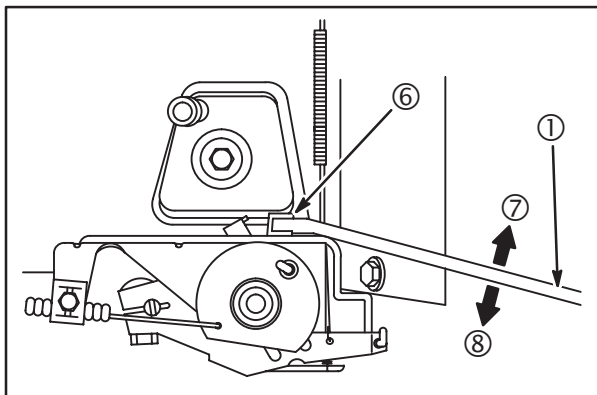

Fig. 34
6. Use Tool #19352 (1) to bend tang (6) UP (7) to increase and DOWN (8) to decrease engine speed, to obtain desired Top No-Load RPM, **Fig. 34**.